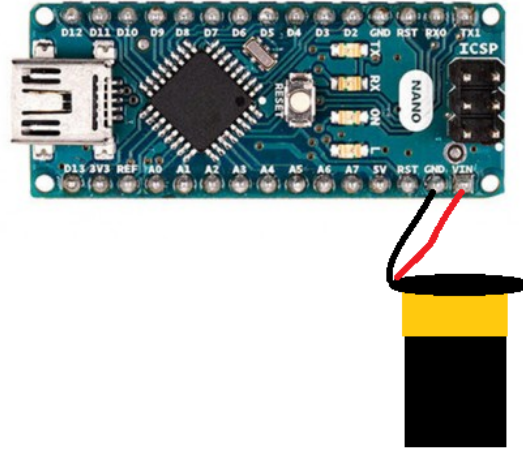

Figure 2: Arduino Nano connected to GND and VIN to battery supply
- Figure 2: Arduino Nano connected to GND and VIN to battery supply